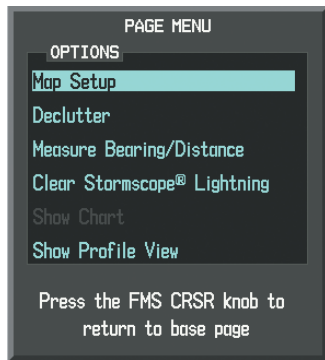

Figure 6-133 Navigation Map Page Menu
- 3) With 'Map Setup' highlighted, press the **ENT** Key (Figure 6-133).